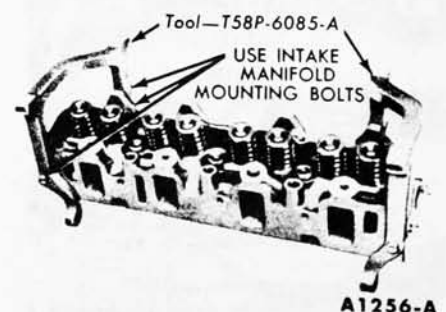

FIG. 34—Cylinder Head Holding Fixtures
3. Remove the cylinder head bolts. Install the cylinder head holding fixtures (Fig. 34).
1. Install the cylinder head holding fixtures (Fig. 34). Remove the deposits from the cylinder head combustion chambers and valve heads with a scraper and a wire brush before removing the valves. Be careful not to scratch the cylinder head gasket surface.